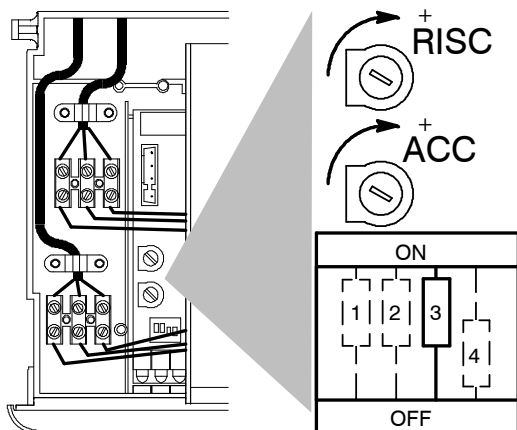

Fig. 7.8
- 14 Check the ignition gas pressure by setting dip-switch "3" (Fig. 7.8) to the OFF position. Compare the value on the gauge with the value indicated in the sections 4.6 or 4.7 (gas pressures at the burner), accordingly with the model of boiler installed.
To adjust the ignition gas pressure, set dip-switch "3" (Fig. 7.8) to the OFF position and adjust potentiometer marked "ACC" with a screwdriver until correct ignition gas pressure is obtained.
With the boiler operating in c.h. mode, use a suitable screwdriver to turn the adjustment potentiometer marked "RISC" (Fig. 7.8).